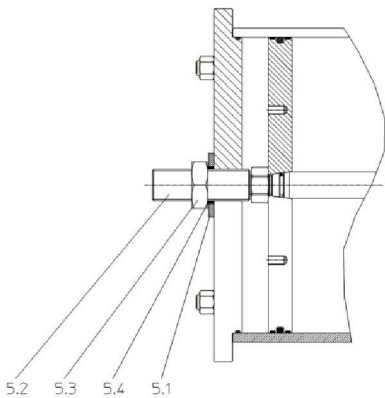
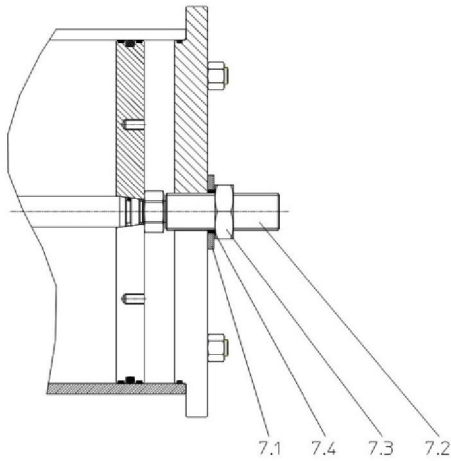

Fig. 5 – Stroke adjustment detail
Fig. 7 – Stroke adjustment detail
**The setting of the open/closed valve position is performed by adjusting the setting screws foreseen into the end flanges of the cylinder and spring cartridge (see Fig. 5 and 6 for spring to Close version and Fig. 7 and 8 for spring to Open version) following the instructions listed on the next paragraphs 8.2.1 and 8.2.2.**
##### 8.2.1.1 Setting of the stopper on the cylinder side (Fig. 5)
### 8.2.2.1 Setting of the stopper on the cylinder side (Fig. 7)